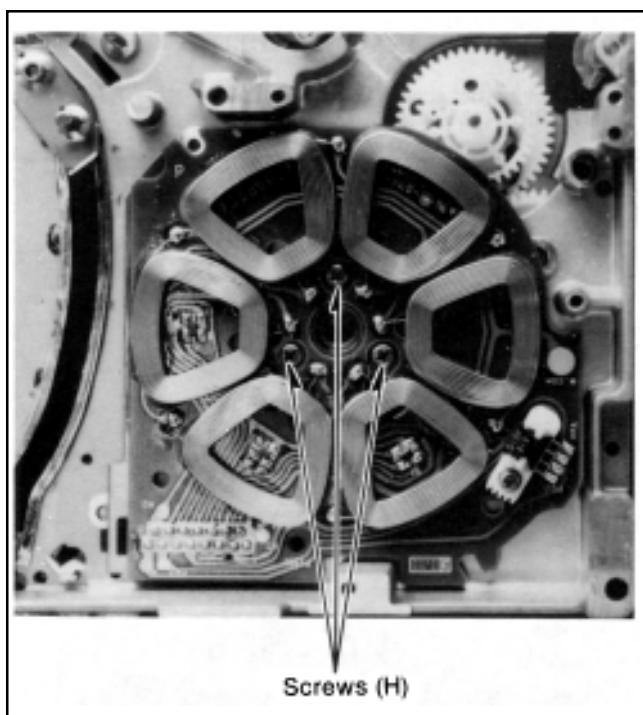

Fig. A10
- 3) Remove the 3 screws(H) and remove the CAPSTAN STATOR as shown in Fig.A10.